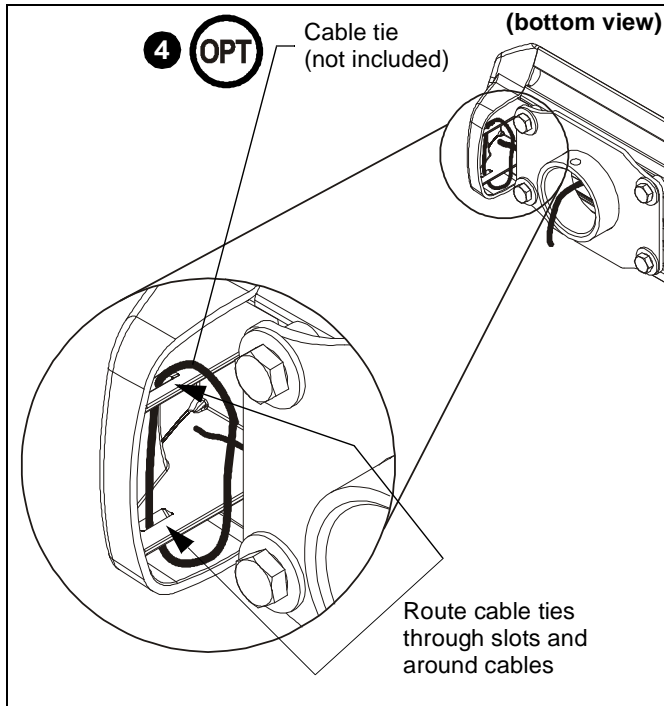

Figure 19
- (Optional) Cables may be tied to inside of WMA1S front cover using cable ties (not included). Route cables near front cover and wrap cable tie through slots on front cover and around cables. (See Figure 19)